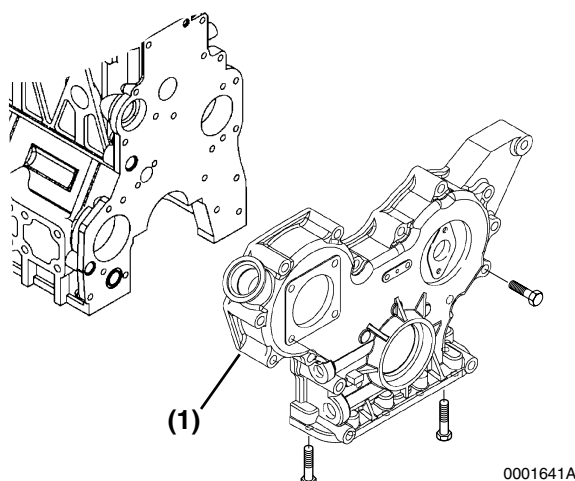

Figure 6-144
1. Apply a continuous bead of ThreeBond Liquid Gasket No. 1212, Yanmar Part No. 977770-01212 to the mounting area of the gear case cover **(Figure 6-144, (1))**. Be sure to circle the bolt holes.